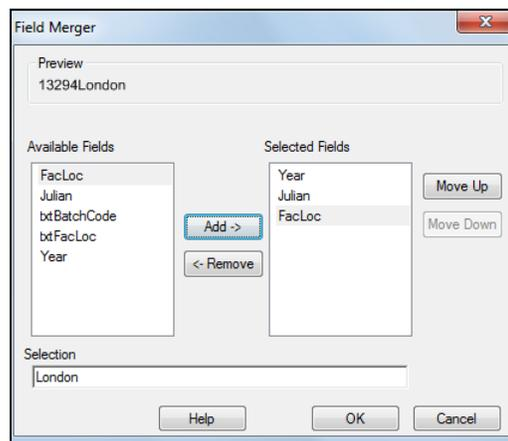

Figure 8-20: Field Merger
- 12 The *Field Merger* dialog box appears. Click on each of the 'Year', 'Julian' and 'Facloc' fields in turn and click *Add ->*. Arrange the fields in order as shown in Figure 8-20 using the *Move Up* and *Move Down* buttons.